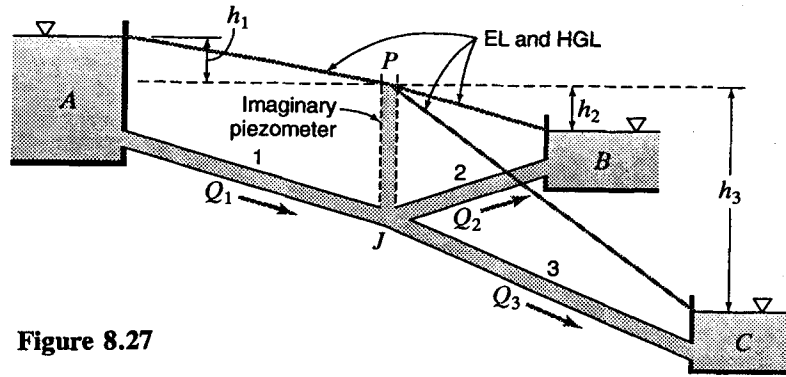

Figure 8.27
8.87 Suppose, in Fig. 8.27, that pipes 1, 2, and 3 are 900 m of 600 mm, 300 m of 450 mm, and 1200 m of 400 mm, respectively, of new welded-steel pipe. The surface elevations of reservoirs A, B, and C are 36, 22 and 0 m, respectively. The water temperature is 15°C. Using a basic scientific calculator only, find the flow in all pipes.